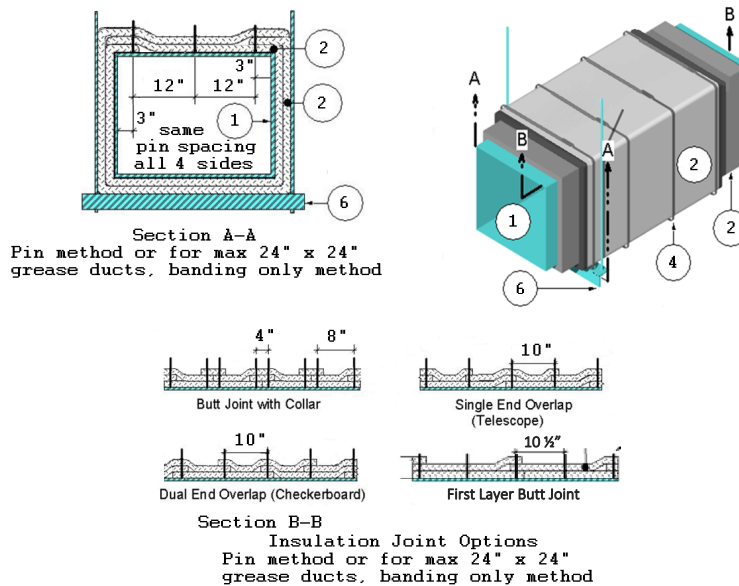
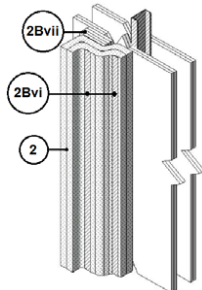

Figure 1. EFS Ductz+ Grease Duct Insulation System
Figure 6. Wall Anchoring
- A. STANDARD INSTALLATION – Apply both layers of duct insulation with transverse and longitudinal joints as shown in Figure 1. For
rectangular grease ducts (Item 1), locate inner layer longitudinal joints (Figure 1) at a corner of the grease duct (Item 1), and offset the outer layer joint (Figure 1) to a different corner. For horizontal sections, ensure the longitudinal joints are placed at the top corners. For round grease ducts (Item 1), locate inner layer longitudinal joints and outer layer longitudinal joints 90° apart; for horizontal sections, center the joints on the top of the grease duct (Item 1). Use a min. 4 in. overlap at all insulation joints. Optional: for rectangular ducts only, compressed butt joints may be used on the first layer and horizontal sections only. Transverse butt joints with collar shall use a min. 8 in. wide collar with min. 4 in. overlap on each side of the butt joint. Use blanket, available in various widths, fully encapsulated with a polypropylene foil scrim. Cover all visually exposed ends and edges of duct insulation with nominal 3 in. wide aluminum foil tape. Tape all joints (inner and outer layers; longitudinal and transverse) with nominal 3 in. wide aluminum foil tape (reference Figure 2). Use aluminum foil tape certified to comply with the following criteria:
- iv. Insulation Anchors: Floor/Ceiling Application – Use min. 16 GA, min. 1-1/2 in.-wide steel sheet strips, and min. 1/4 in. diameter hex-head concrete anchors, spaced to match the longitudinal pin spacing shown in Figure 1. Position the floor/ceiling anchors over a min. 6 in. wide horizontal flange of the flared duct insulation (Item 2) which is in contact with the floor/ceiling assembly. Position the anchors such that the duct insulation extends a min. 1-1/2 in. beyond the anchors. Refer to Figure 6.
- v. Insulation Anchors: Wall Application – Use min. 16 GA, min. 1-1/2 in. wide steel sheet strips. For concrete or masonry wall, fasten the duct insulation (Item 2) to the wall using min. 1/4 in. diameter, hex-head concrete or masonry anchors as applicable, and spaced to match the longitudinal pin spacing shown in Figure 1.
- vi. Gypsum Anchor Protection Boards: For installation onto steel stud and gypsum wall, use three layers of 6 in. wide, 5/8 in. Type X gypsum board strips, mounted vertically onto the gypsum wall under the duct insulation (Item 2) and adjacent to the wall anchors (Item 2Bvi) as shown in Figure 6. Attach the gypsum wall anchor boards with #10 drywall Type G laminating screws spaced 24 in. on center (oc). Secure the insulation blanket (Item 2) to the gypsum wall anchor board using wall anchors (Item 2Bvi) consisting of min. 16 GA, min. 1-1/2 in. wide steel sheet strips and #10 drywall Type G laminating screws spaced to match the longitudinal pin spacing shown in Figure 1.
For gypsum wall, use min. 1/4 in. diameter hex-head self-drilling screws spaced to match the longitudinal pin spacing shown in Figure 1. Position the wall anchors over a min. 6 in. wide flange of the flared duct insulation (Item 2) which is in contact with the wall assembly. Position the anchors such that the duct insulation extends a min. 1-1/2 in. beyond the anchors. Refer to Figure 6. For steel stud and gypsum wall attachment, ensure that studs are positioned in line with the wall anchors.